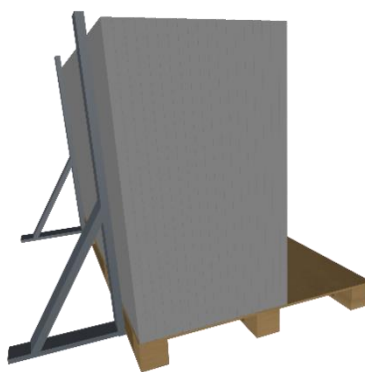

Figure 3-6 Modules placement
- 5) Do not place the modules in an environment without reliable support or in a non-fixed position. As shown in Figure 3-6.